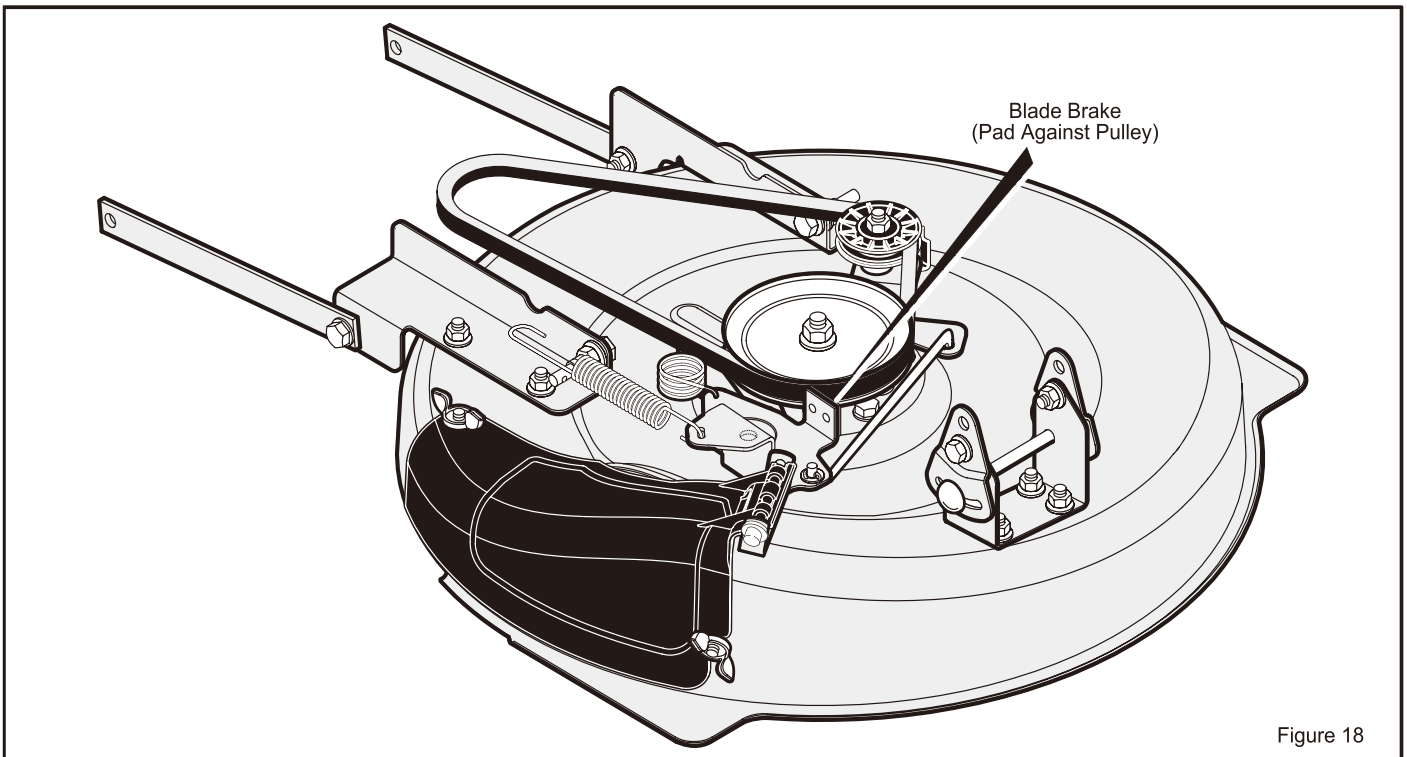

Figure 18
7. Check the operation of the **blade brake**. Rotate the pulley with your hand. Make sure the **brake pad** is pressed tightly against the pulley (Figure 18).